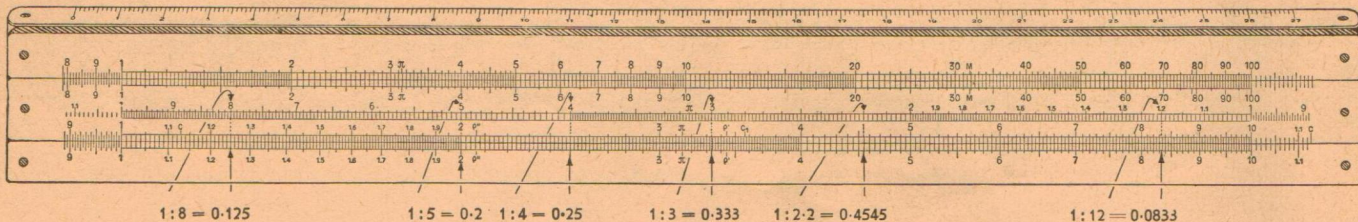

Fig. 9
- In order to find the reciprocal value $1 \div a$ for any given number a , find a on **C** (or **CI**) and read above it on **CI** (or below it on **C**) the reciprocal value. Reading off is done therefore without any movement of the slide and entirely by setting the cursor line. (Fig. 9.)